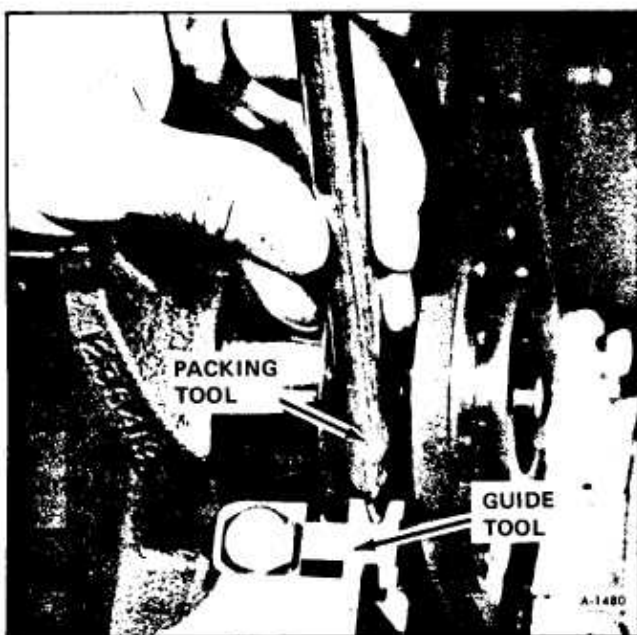

Figure 69-Packing Seal Into Guide and Cylinder Block
6. Work these two pieces of seal into the cylinder block (one piece on each side) with two small screwdrivers. Use guide tool J-21526-1 as shown in Figure 68. Using packing tool, pack these short pieces up into the block. See Figure 69.